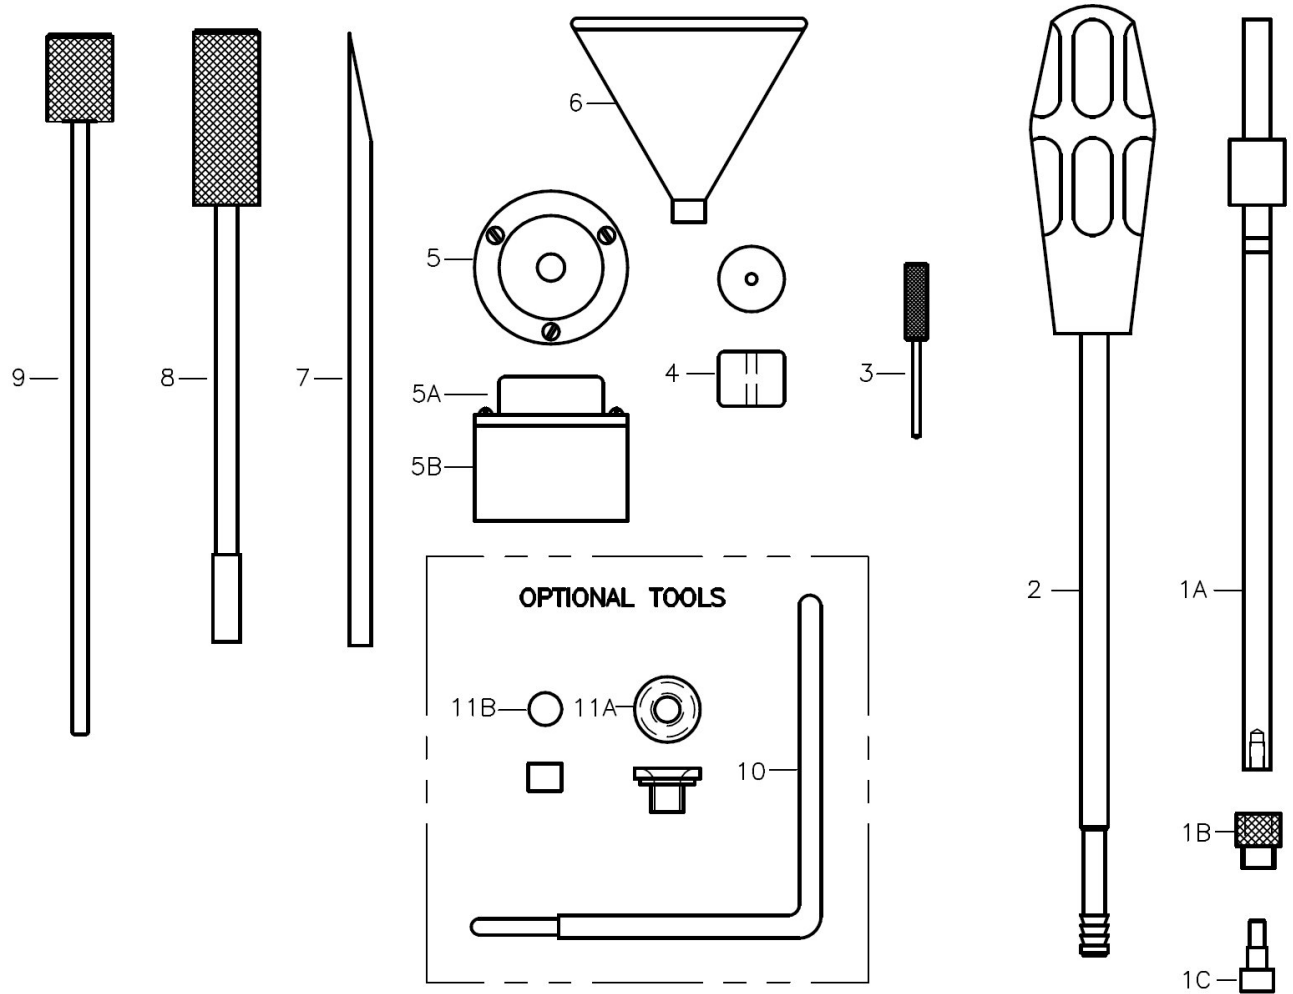

Figure 3-1 – Extrusion Plastometer Tools
Refer to Figure 3-1 for an illustration. See Section 16 for cleaning instructions.
- One (1) ASTM Piston Assembly (Items 1A, 1B & 1C, Figure 3-1) - consisting of a removable stainless steel piston foot (P/N: 02001086); piston guide collar (P/N: 02001088); and a piston rod (P/N: 02001085). The piston rod and foot weighs 100 grams (not including the guide collar). It is considered the first 100 grams of all test loads. Piston feet made from other materials can also be supplied. An optional combination ASTM/ISO Piston Rod (P/N: 02001439), an ISO (only) Piston Rod (P/N: 02001665) & a piston foot to ISO tolerances (P/N: 02001440) are also available.
- One (1) Charging Tool (P/N: 02001582), is used to compress the test material down into the cylinder (cylinder bore), and helps to remove some of the entrapped air when charging material. Provided with a replaceable tip (P/N: 02001071).
- Two (2) ASTM D 1238 Orifice (die), D2 tool steel (P/N: 02001030). Note that Carbide orifices are also available (P/N: 02001031). Contact factory for other orifice dimensions & materials
- One (1) Level (P/N: 02001271) - consisting of a base (P/N: 02001226) and a circular level (P/N: 02001227), is used to check the Cylinder Alignment (Level) of the cylinder. This level is made to fit over the end of the Piston Rod Assembly, with the piston and orifice in the cylinder.
- One (1) Stainless Steel Funnel, (P/N: 02001091) - is used to help introduce a sample of material into the cylinder.
- One (1) Orifice Remover, (P/N: 02001073) - is used from the bottom of the furnace to push the orifice up and out of the cylinder.
- One (1) Cylinder Cleaning Tool, (P/N: 02001527) is used to clean the cylinder after each test with the cotton cleaning patches.
- One (1) Cutoff Tool, (P/N: 02001090) this U-shaped tool is used to cut-off the extruded sample at the bottom of the orifice.
- One (1) Orifice Drill, (P/N: 02001075) this soft drill bit is used to clean material out of the inside diameter of the orifice.